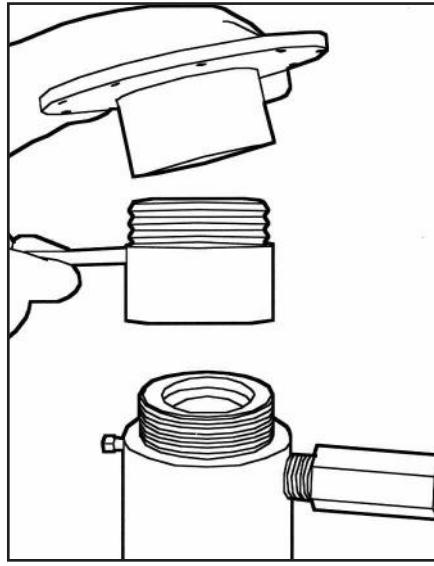

Figure 56
- Unscrew the connector section for the oil chamber and fluid cylinder on the pump body assembly. (Fig.56)